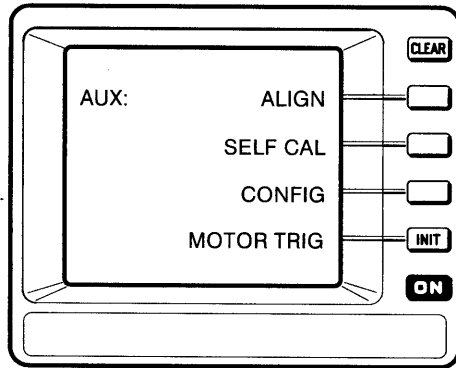

Figure 3-3: The Auxiliary Functions Menu
- Step 2:** Press the **AUX FUNCT** button on the top panel to display the auxiliary functions menu. The display appears as shown in Figure 3-3.
- Step 1:** Press the **AUX FUNCT** button on the top panel to display the auxiliary functions menu. The display appears as shown in Figure 3-3.